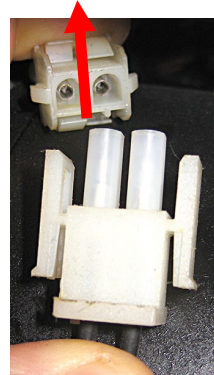

Figure 68
69. Reconnect the two (2) wire blower wiring harness (see Figure 68).